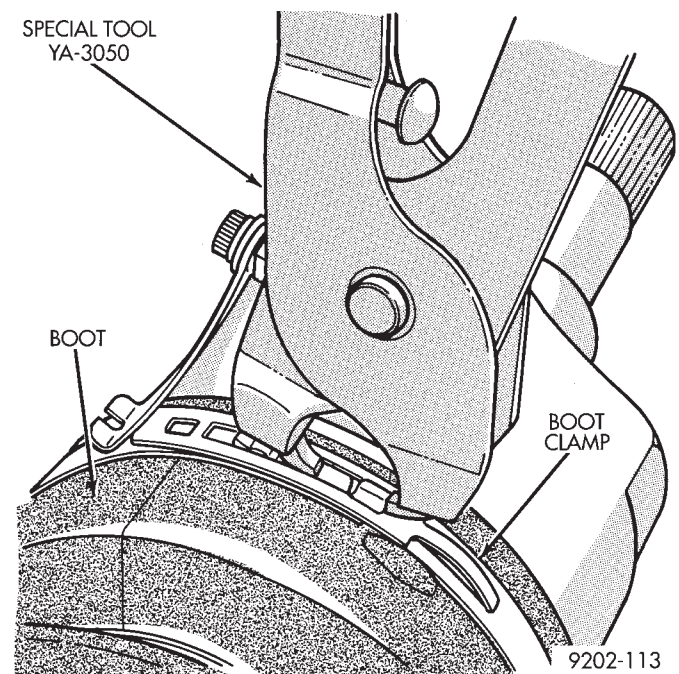

Fig. 2 Locking Boot Clamp
(4) Use Clamp Locking Tool Snap-On YA3050 or equivalent shown in (Fig. 2) to install the clamp on the boot.
(5) Place the prongs of the clamp locking tool in the holes on the clamp and squeeze together until the two ends meet (Fig. 2).